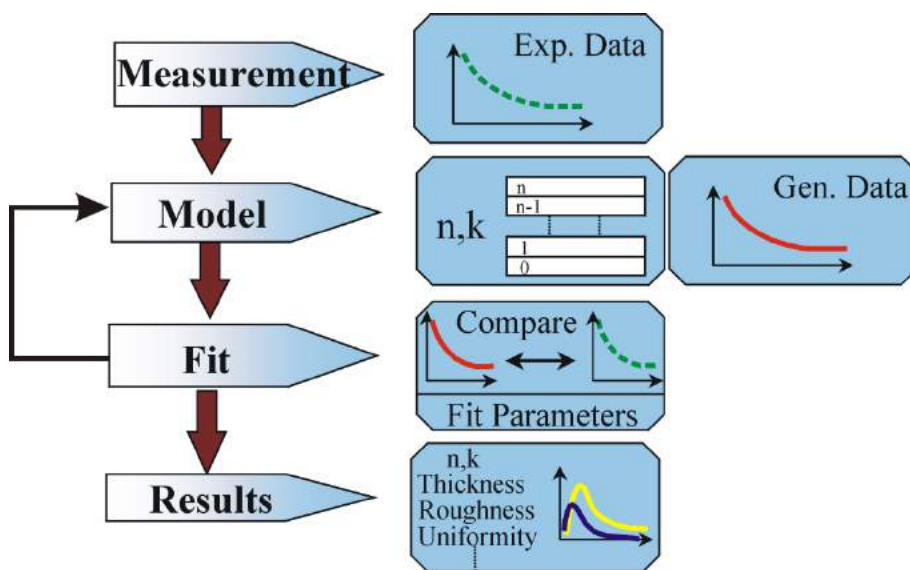

Figure 3-1. SE Data Analysis flowchart.
Data analysis is a very important part of spectroscopic ellipsometry (SE): without data analysis, SE measures only the ellipsometric parameters Psi and Delta versus wavelength. To determine sample properties of interest, such as layer thicknesses and optical constants, a model-based analysis of the SE data must typically be performed. The only exception to this is in characterizing the optical constants of bulk samples, which is described on the next page. The model-based analysis approach is summarized by the flowchart shown in Figure 3-1. The basic steps of this approach are: